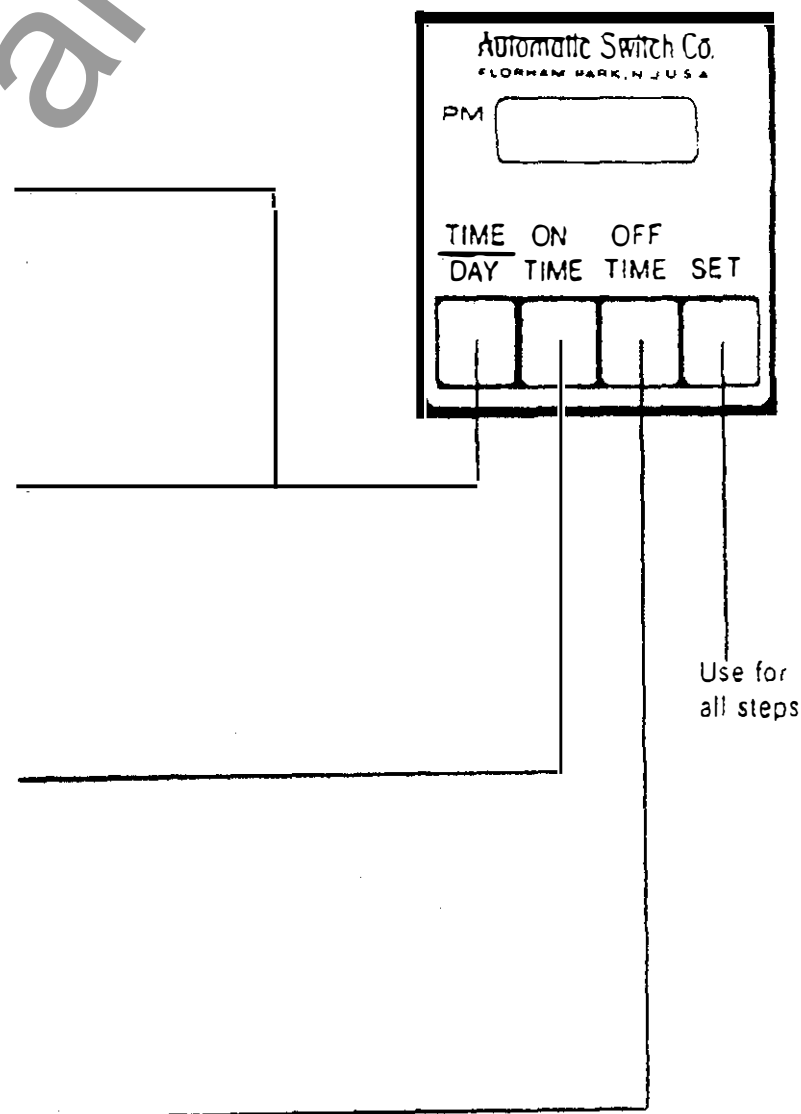

Figure 5-6. Setting and reading the timer.
□ **Acc. 11C** This timer, if furnished, is an additional plug-in circuit board in the control panel. The timer is used for periodic exercising of the emergency engine-generator plant. The timer can be set to exercise the gen-set for 0 to 7 days a week. The exercise time period may be from 1 minute to 24 hours (in 1 minute increments). The exerciser can be set to exercise with or without load transfer. The engine-generator should be exercised under load once a week for a minimum time period of 20 minutes, or follow the recommendations of the engine-generator set manufacturer. A built-in battery allows the exerciser to *keep time* for up to 2 weeks without external power. A built-in battery charger extends battery life to approximately 3 years. Battery is fully charged after 24 hours. See Figures 5-6 and 5-7.